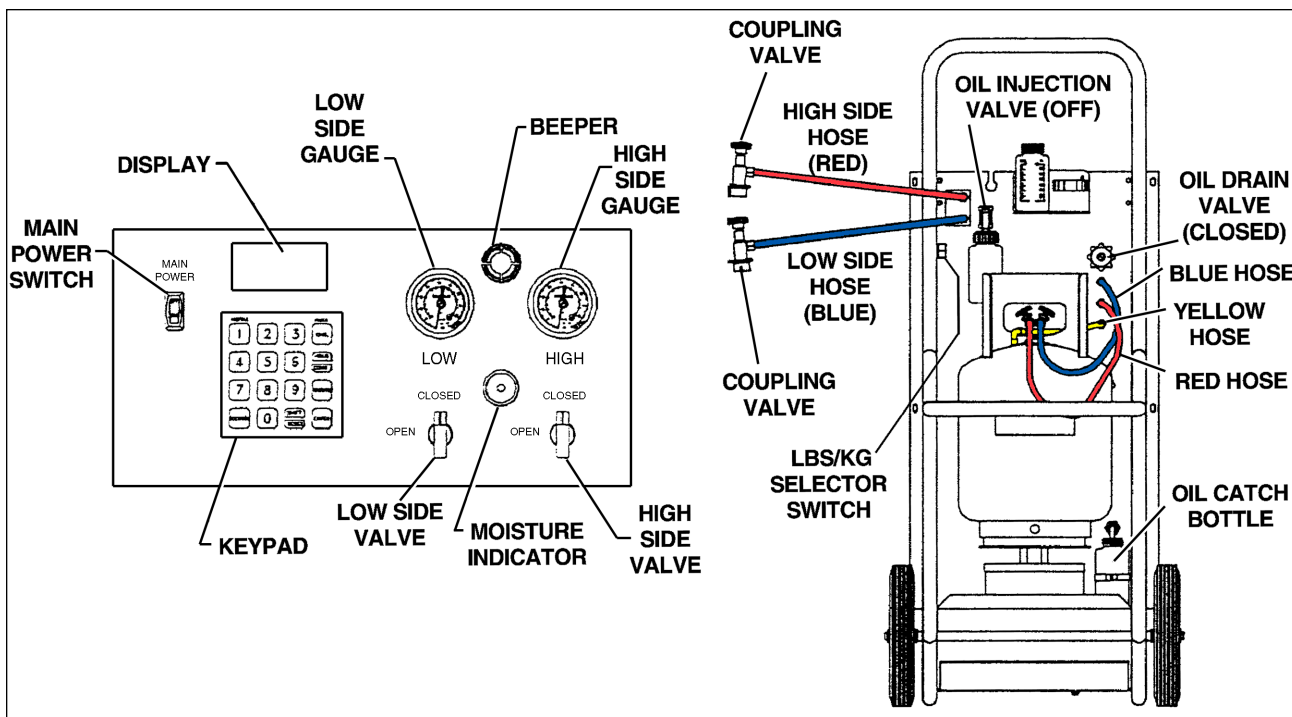
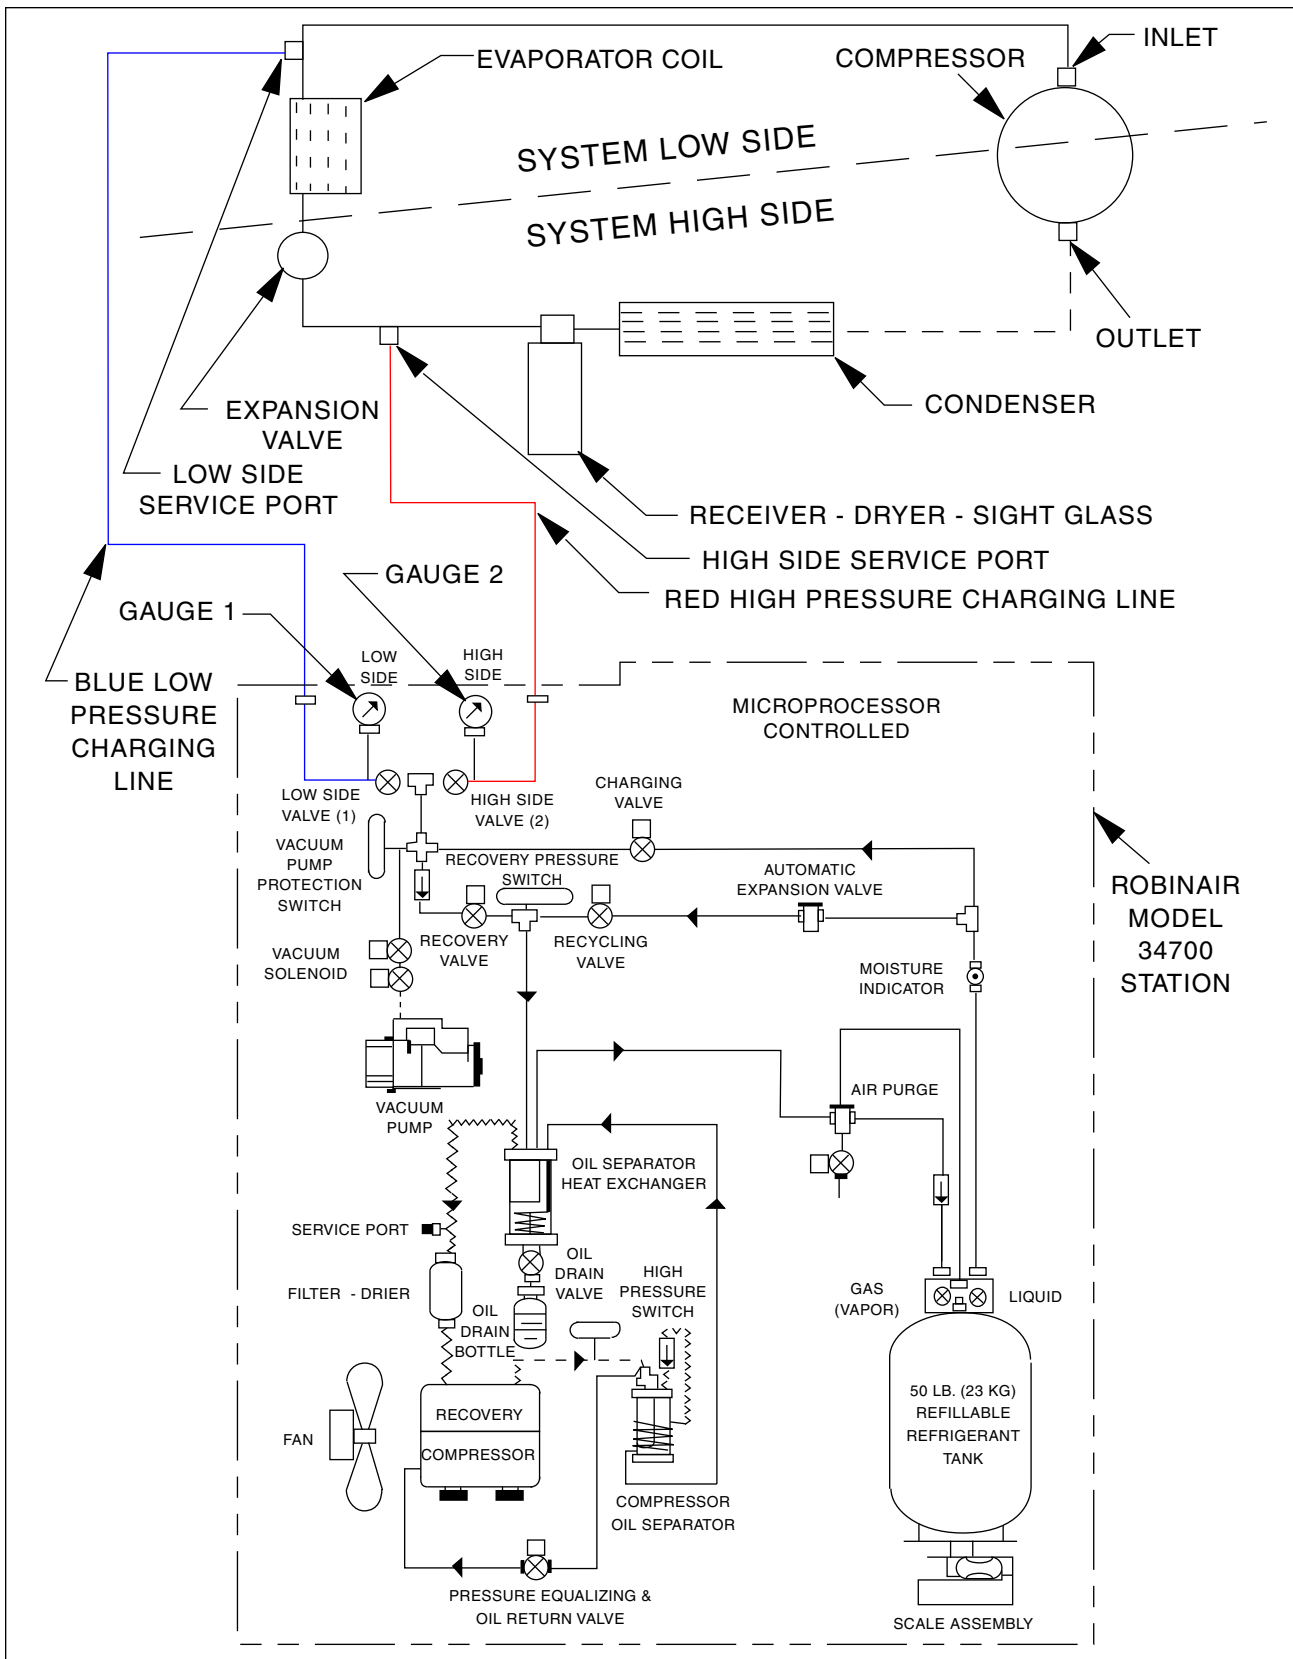

Figure 14-6. Robinair 34700 Control Panel and Hose Connections
Figure 14-7. Robinair 34700 Hose Hookup
- a. Using the Robinair 34700 (Refer to Figures 14-6 and 14-7.)
3. Close both the low side and high side valves on charging unit. (Refer to Figure 14-6.)
4. Connect the blue and red hoses to the service ports as shown in Figure 14-7. On systems equipped with quick disconnect connections, open coupler valves.
5. Open blue (low side) valve (1) on unit's control panel.
6. Open both the red GAS (vapor) valve and the blue LIQUID valve on the *tank*. (Refer to Figure 14-6.)
2. Open the **high** side (2) valve and allow 1/2 pound of refrigerant to enter the system. Close **high** (2) side valve. (Refer to Figures 14-6 and 14-7.)
### 14-12. DISCHARGING (BLEEDING OR PURGING) SYSTEM. (Refer to Figure 14-6.)